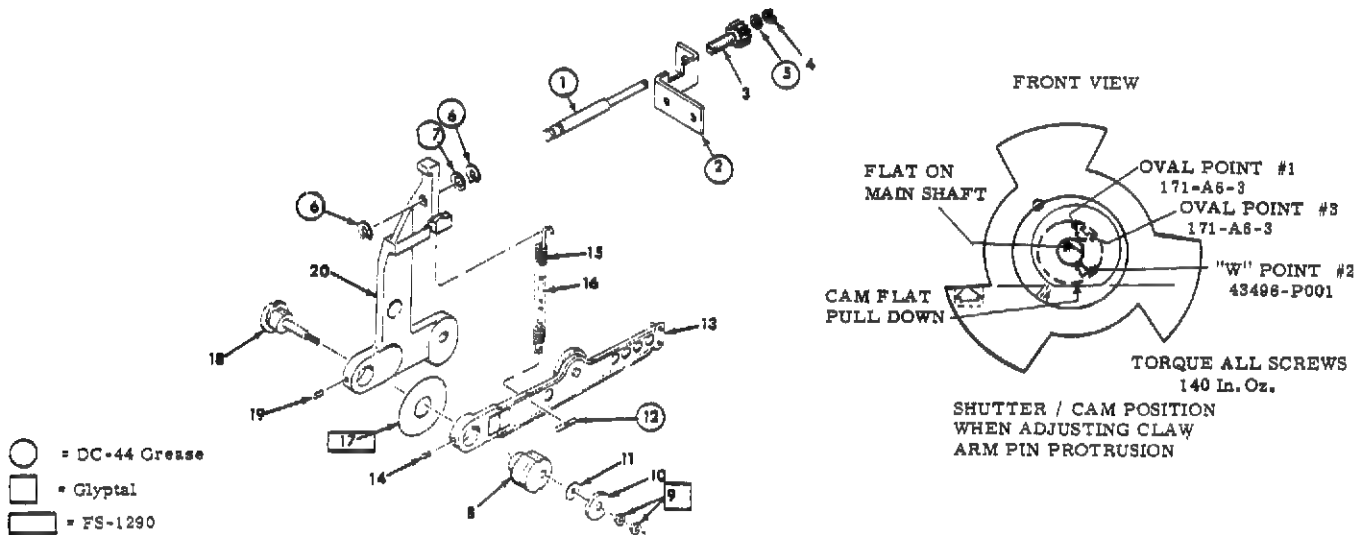

Figure 3-20. REMOVAL AND REASSEMBLY OF CLAW ARM
1. Unhook the top of the Claw Arm Spring from the Framing Arm and make sure all tension is off the Claw Arm before proceeding with these instructions. Throughout this procedure, be extremely careful of the Claw Arm Pins (Figure 3-20).
1. Unhook the top of the Claw Arm Spring (15) from the Framing Arm (20) and make sure all tension is off the Claw Arm (13) before proceeding with these instructions.
2. Remove the oval point Jam Screw (#3 in the Shutter and Shaft Alignment insert on Figure 3-20) and loosen the remaining two Setscrews (#1 and #2 in the insert) and move the Shutter and Cam
1. Apply DC 44 grease (39479-P9) to the Pin (12) and stick the Pin in place on the Claw Arm (13) making sure the notch lines up with the hole in the Claw Arm (13).
2. Apply DC 44 grease to Rod (1) threads.
3. Hook Spring (15) onto the Claw Arm (13) and insert the Claw Arm (13) into the projector between the Framing Arm (20) and the Shutter and Cam Assembly.
4. Lubricate both sides of Washer (17) with FS-1290 lubricant (39479-P4).
5. Assemble Pivot (18), Washer (17), Claw Arm (13), Bushing (8), Washers (11) and (10) and Nuts (9).
6. Tighten Nuts (9) for .001" end play and coat Nuts with Blue Glyptal (39490-P1). The outside Nut is a jam nut to prevent the inside nut from turning off the Pivot shaft.
7. Rotate the Pivot (18) so the Eccentric Pin is between 6 and 7 o'clock when viewed from the front of the projector. Tighten the Pivot Setscrew (19).
8. Rotate the Bushing (8) so its circumference lines up with the circumference of the Pivot (18) and the groove in its side is slightly below the groove in the side of the Pivot (18). Tighten the Claw Arm Setscrew (14).
9. Gently push the Shutter and Cam Assembly forward while pushing down on the Claw Arm (13) making sure the cam follower on the Claw Arm slides under the Cam. Tighten the Setscrew (#1 in the Shutter and Shaft Alignment insert of Figure 3-20) on the flat of the main drive shaft. (See Step 9 under Reassembly of Main Shaft.) Make sure the Claw Arm (13) is not hitting the aperture plate.
10. Hook the top of the Claw Arm Spring (15) on the Framing Arm (20) being very careful that the cam follower on the Claw Arm contacts the radial surface of the Cam.